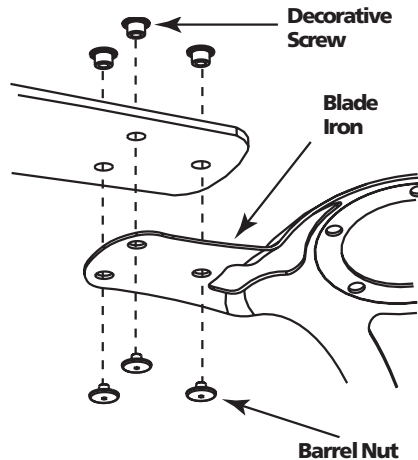

Figure 7a - Attaching Blades to Blade Iron
1. Attach each blade to the blade iron using three barrel nuts and three decorative screws as shown in Figure 7a, 7b and 7c.